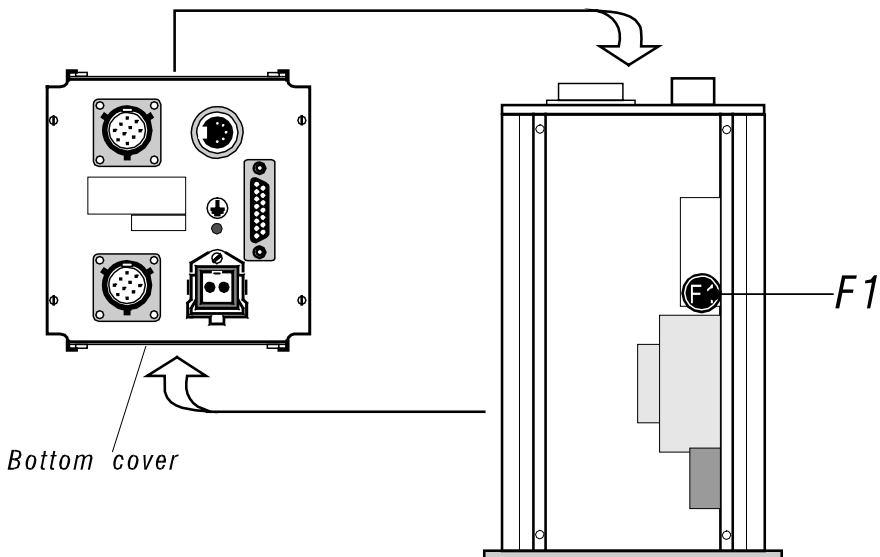

Figure 15. Replacement of the protection fuse
- Replace the fuse (F1) on the power supply card (see Figure 15), as indicated in the table below .